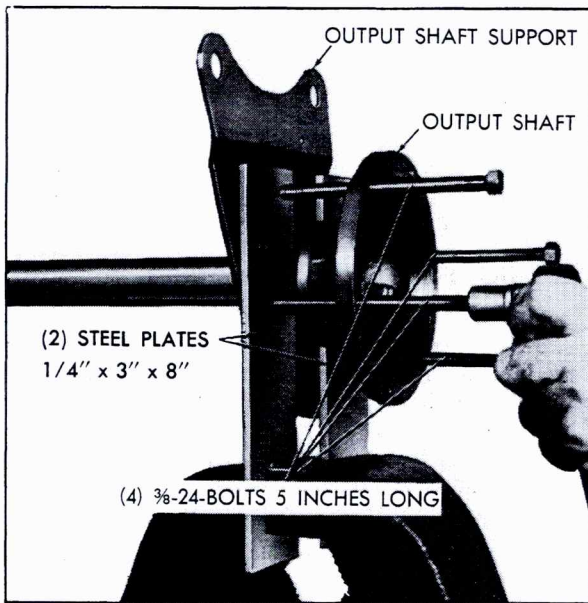

Fig. 3-72 Removing Right Hand Output Shaft Support and Bearing
3. Clamp output shaft in a vise as shown in Fig. 3-72.
4. Make two steel plates 1/4" x 3" x 8" and install in a vise as shown in Fig. 3-72.
5. Install four 3/8 - 24 bolts, five inches long on output shaft and install output shaft between steel plates in vise as shown in Fig. 3-72.